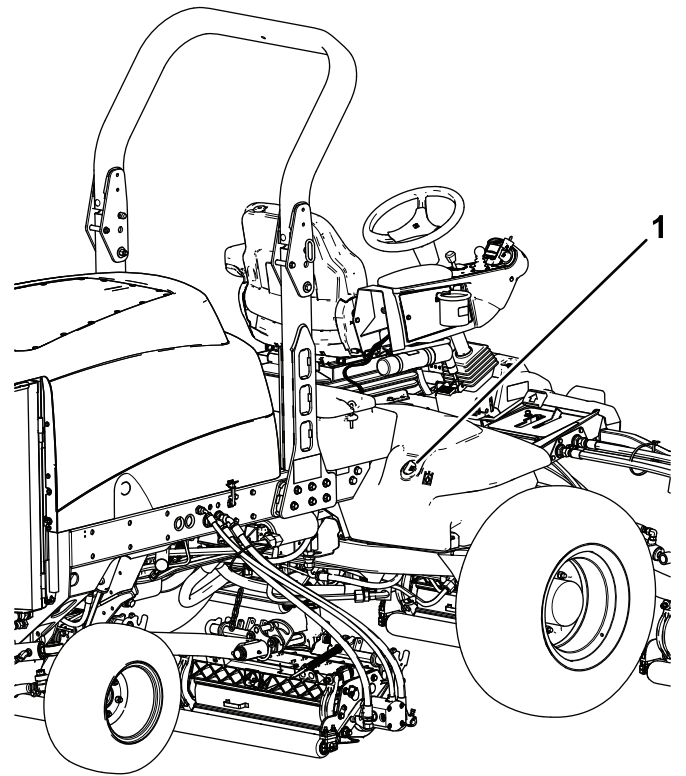

Figure 82
2. Clean the area around the filler neck and cap of the hydraulic tank (Figure 82).